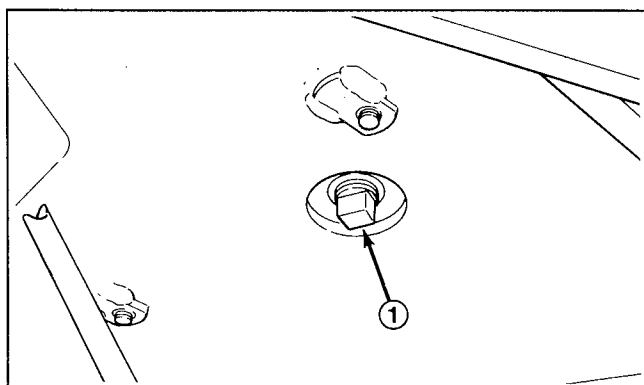

Figure 32
1. Place an oil drain pan below the drain deflector on bottom of crankcase. Clean area around drain plug (Fig. 32).
2. Remove foam pre-cleaner by sliding it off the paper element (Fig. 32).